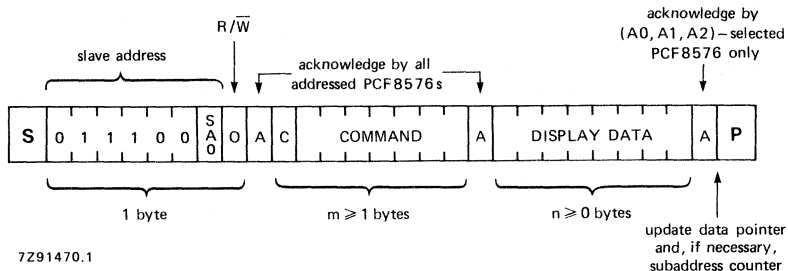

Fig. 16 I2C bus protocol.
The I2C bus protocol is shown in Fig. 16. The sequence is initiated with a start condition (S) from the I2C bus master which is followed by one of the two PCF8576 slave addresses available. All PCF8576s with the corresponding SA0 level acknowledge in parallel the slave address but all PCF8576s with the alternative SA0 level ignore the whole I2C bus transfer. After acknowledgement, one or more command bytes (m) follow which define the status of the addressed PCF8576s. The last command byte is tagged with a cleared most-significant bit, the continuation bit C. The command bytes are also acknowledged by all addressed PCF8576s on the bus.